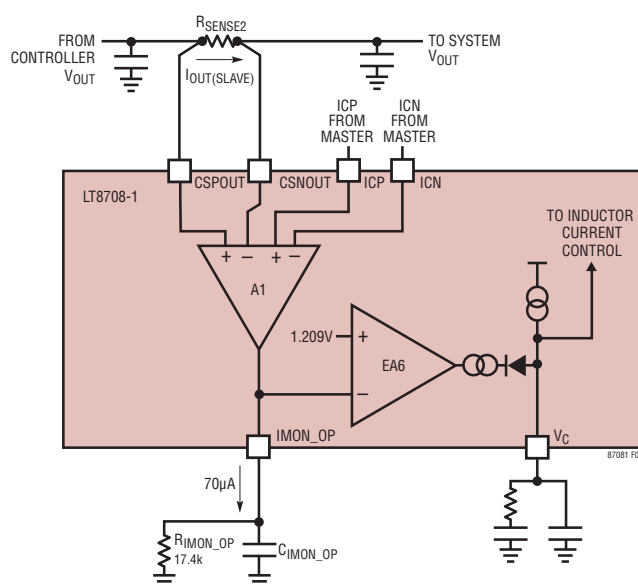

Figure 10. $I_{\text{OUT(SLAVE)}}$ Current Regulation and Monitor
Figure 10 shows the primary LT8708-1 circuits involved in the regulation of $I_{\text{OUT(SLAVE)}}$. Additional circuitry is shown in Figure 1. $I_{\text{OUT(SLAVE)}}$ is regulated by a feedback loop with ICP and ICN setting the desired current. The feedback loop involves the following sections:
- Resistor R_{SENSE2} converts the $I_{OUT(SLAVE)}$ current into a voltage that can be measured by amplifier A1. This voltage is denoted as $V_{(CSPOUT-CSNOUT)S}$ in Figure 10.
$$I_{OUT(SLAVE)} = \frac{V_{(CSPOUT-CSNOUT)S}}{R_{SENSE2}} = \frac{40mV \text{ (from Figure 10)}}{10m\Omega} = 4A$$
$$I_{OUT(SLAVE)} = \frac{V_{(CSPOUT-CSNOUT)S}}{R_{SENSE2}} = \frac{-20mV \text{ (from Figure 10)}}{10m\Omega} = -2A$$